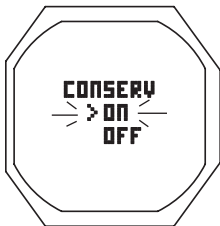

Fig. 53 - SET CONSERVATIVE FACTOR
**Set Conserv**, information includes (Fig. 53):